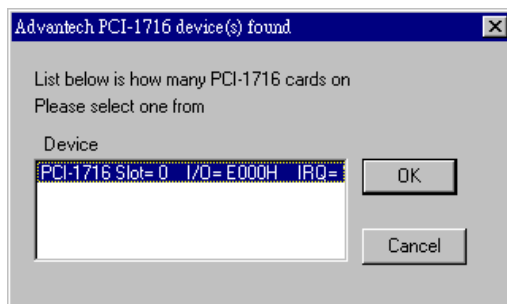
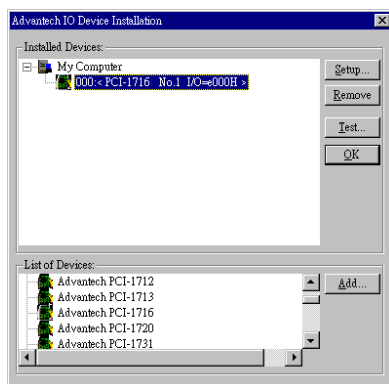

Figure 2-6: The “Device(s) Found” dialog box
Figure 2-8: The Device Name appearing on the list of devices box
Step 3: Scroll down the List of Devices box to find the device that you wish to install, then click the **Add...** button to evoke the *Device(s) found* dialog box such as one shown in Figure 2-6. The *Device(s) found* dialog box lists all the installed devices of selected option on your system. Select the device you want to configure from the list box and press the **OK** button. After you have clicked **OK**, you will see a *Device Setting* dialog box such as the one in Figure 2-8.
Following through the Setup and Configuration procedures to the last step described in the previous section, you can now proceed to test the device by clicking the **Test** Button on the *I/O Device Installation* dialog box (Figure 2-8). A *Device Test* dialog box will appear accordingly: